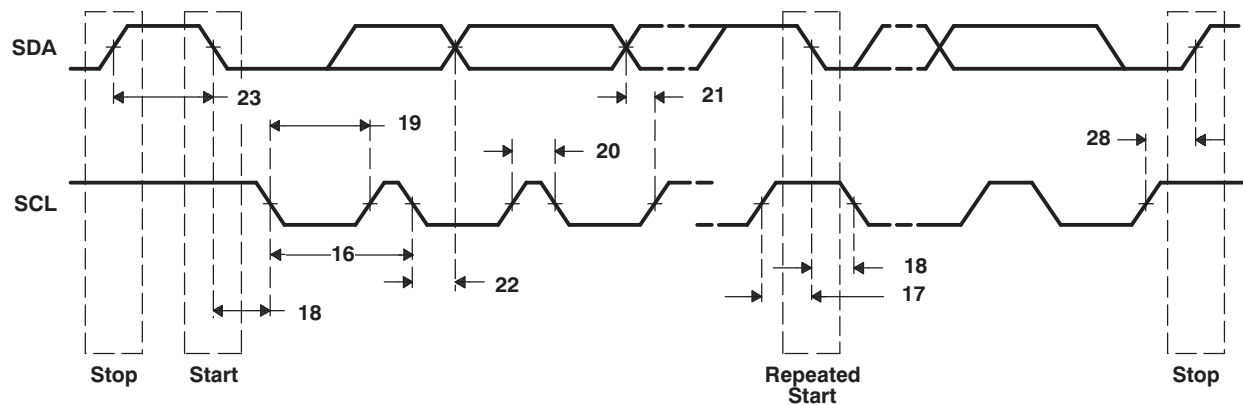

**Figure 5-40. I2C Transmit Timings**
**Table 5-34. Switching Characteristics for I2C Timings(1) (see Figure 5-40)**